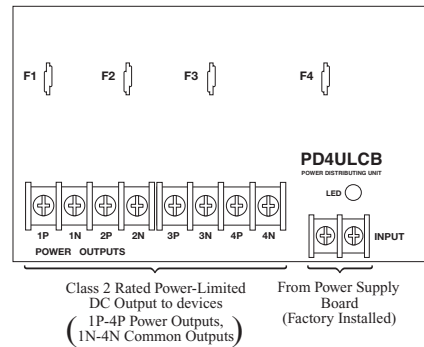

Fig. 3a
- b. For other Power Distribution Models: connect devices to be powered to terminal pairs 1 to 4 marked [1P & 1N] through [4P & 4N] (*Fig. 2a & 2b, pg. 5*) or 1 to 8 marked [1P & 1N] through [8P & 8N] (*Fig. 3a & 3b, pg. 5*), carefully observing correct polarity.